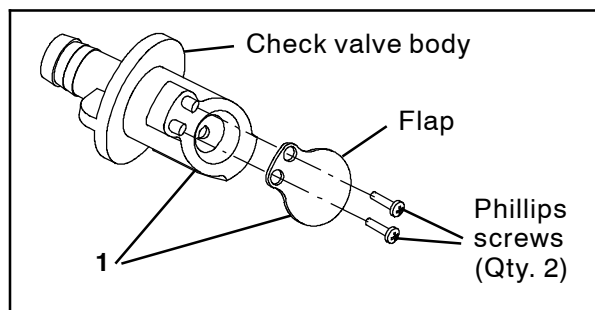

FIG. 1
3. Remove the two Phillips screws securing the flap to the ES check valve body. (Fig. 1)